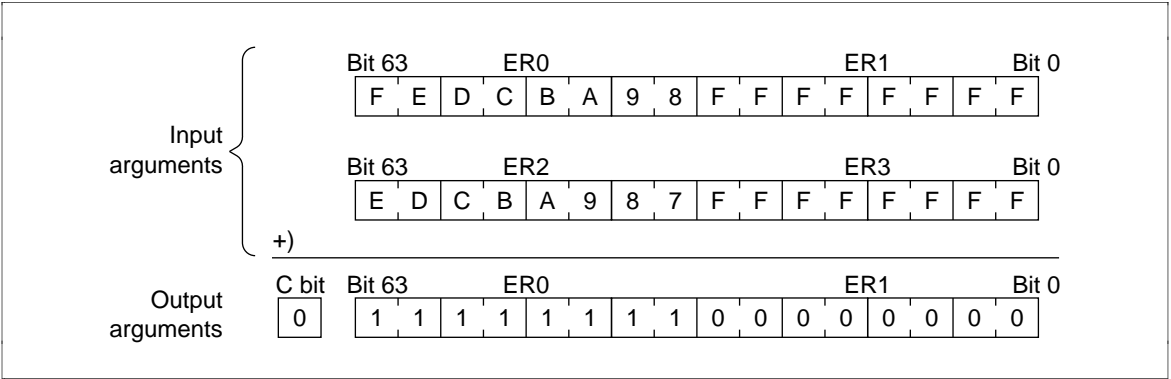

Figure 4.29 Executing SUB
- Figure 4.29 is an example of execution of the software SUB. When the input arguments are set as shown, the results of subtraction are set in ER0 and ER1.